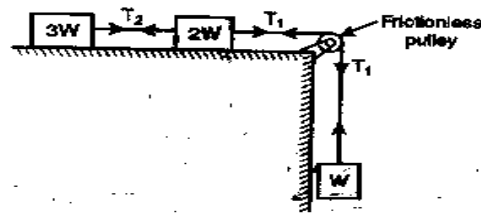

Fig. 3
- (d) Three loads W, 2W and 3W are connected by a weightless inextensible string passing over a smooth pulley as shown in figure3. The coefficient of friction between table and the weights is 0.15. What is acceleration of weight W and the